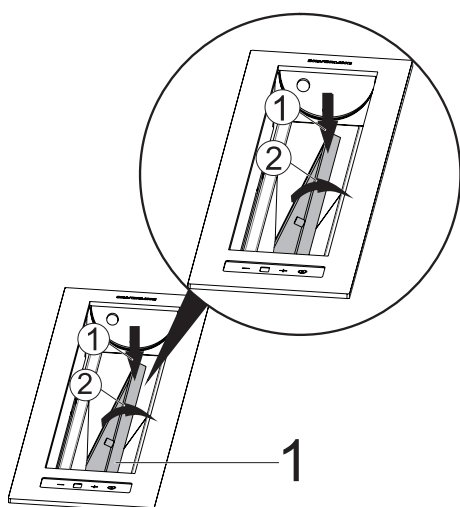

Fig. 35
16. ➤ ■ Insert the aluminium metal filter inside the appliance via the holder on it (Fig. 35/1).
■ Lay down the aluminium metal filter towards the arrow and insert it in the appliance (Fig. 35/2)